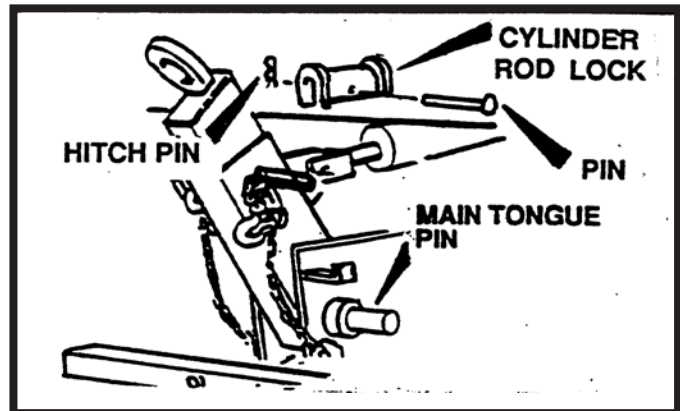

Figure 18
5. Place cylinder rod lock onto cylinder rod. Secure with pin and hitch pin. See figure 18.